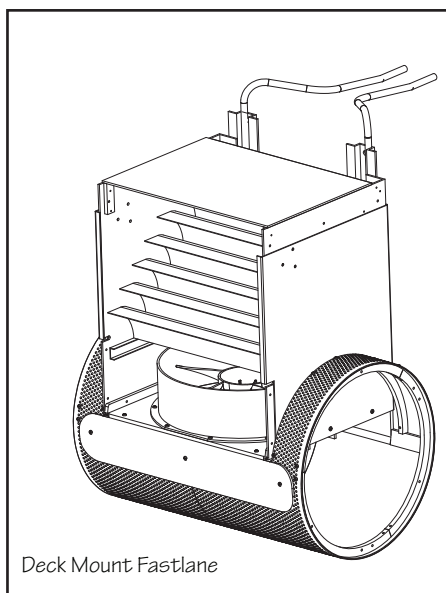

Fig. 6.6A
6.8a) If the hydraulic hoses are to be run up and over the pool deck, then proceed to step 6.9 (Fig 6.6A).